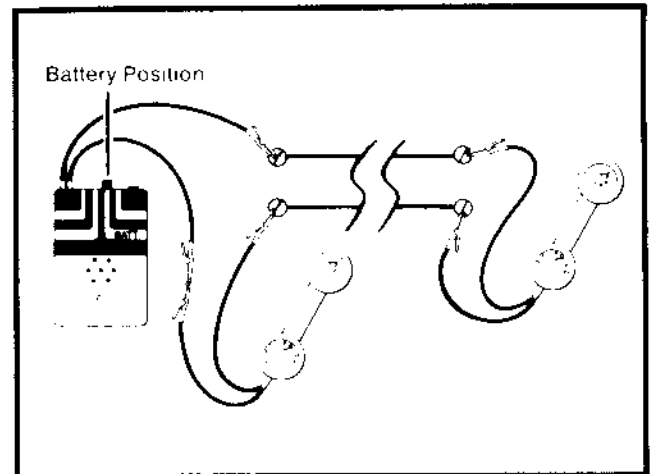

Figure 4 Connections for Talk Battery
- (a) If a source of "talk" battery is required, place the slide switch in the "Batt" position. Then connect Lineman's Test Sets or telephones in series with the Test Set lead as shown in Figure 4.